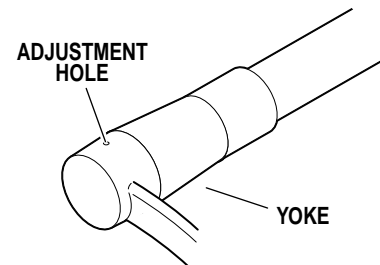

Figure 2-5. Model 29 Roll Adjustment
b. The lighthead should move freely yet maintain its position without drifting. If the lighthead drifts, refer to figure 2-5 and proceed as follows: